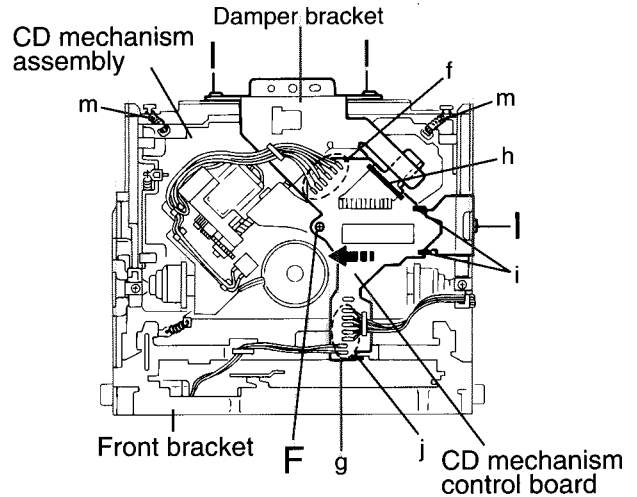

Fig.10
**■ Removing the CD mechanism control board(See Fig.10 and 11)**
(See Fig.10, 15 to 18)**